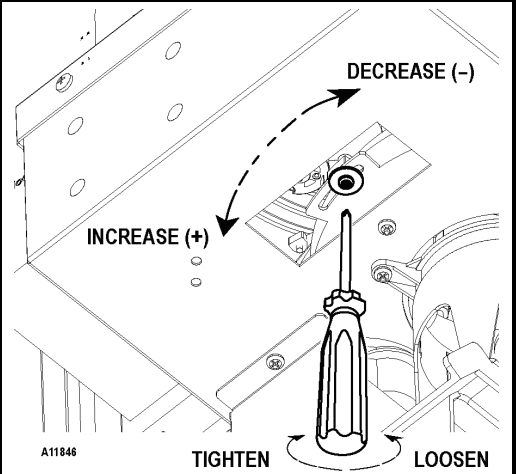

Figure 5a. Cup Rim Diameter Adjustment
- 4c. Re-tighten the screw. See **Figure 5a**.